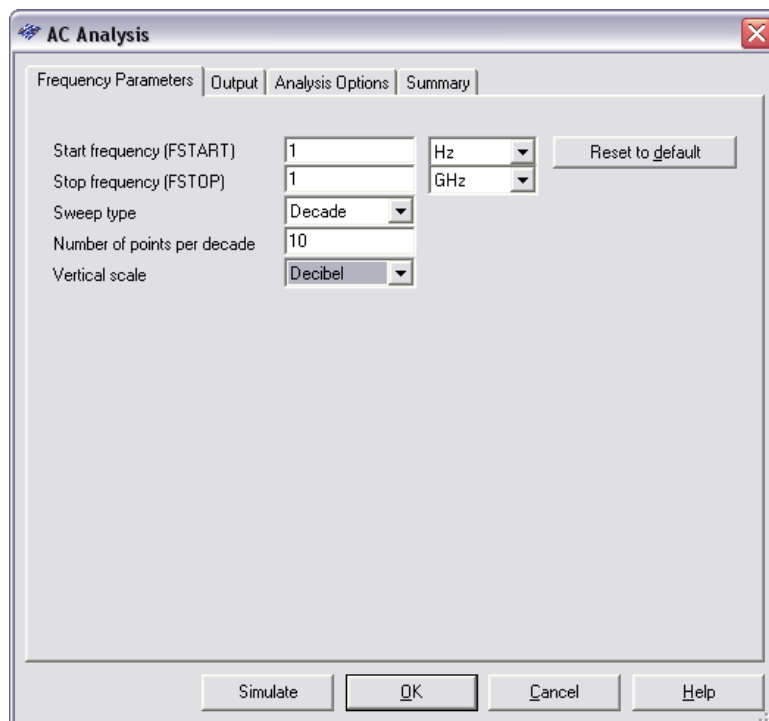

Figure E2-13. AC Analysis Frequency Parameters
3. Select the *Frequency Parameters* tab and set the following values (as seen in Figure E2-13):